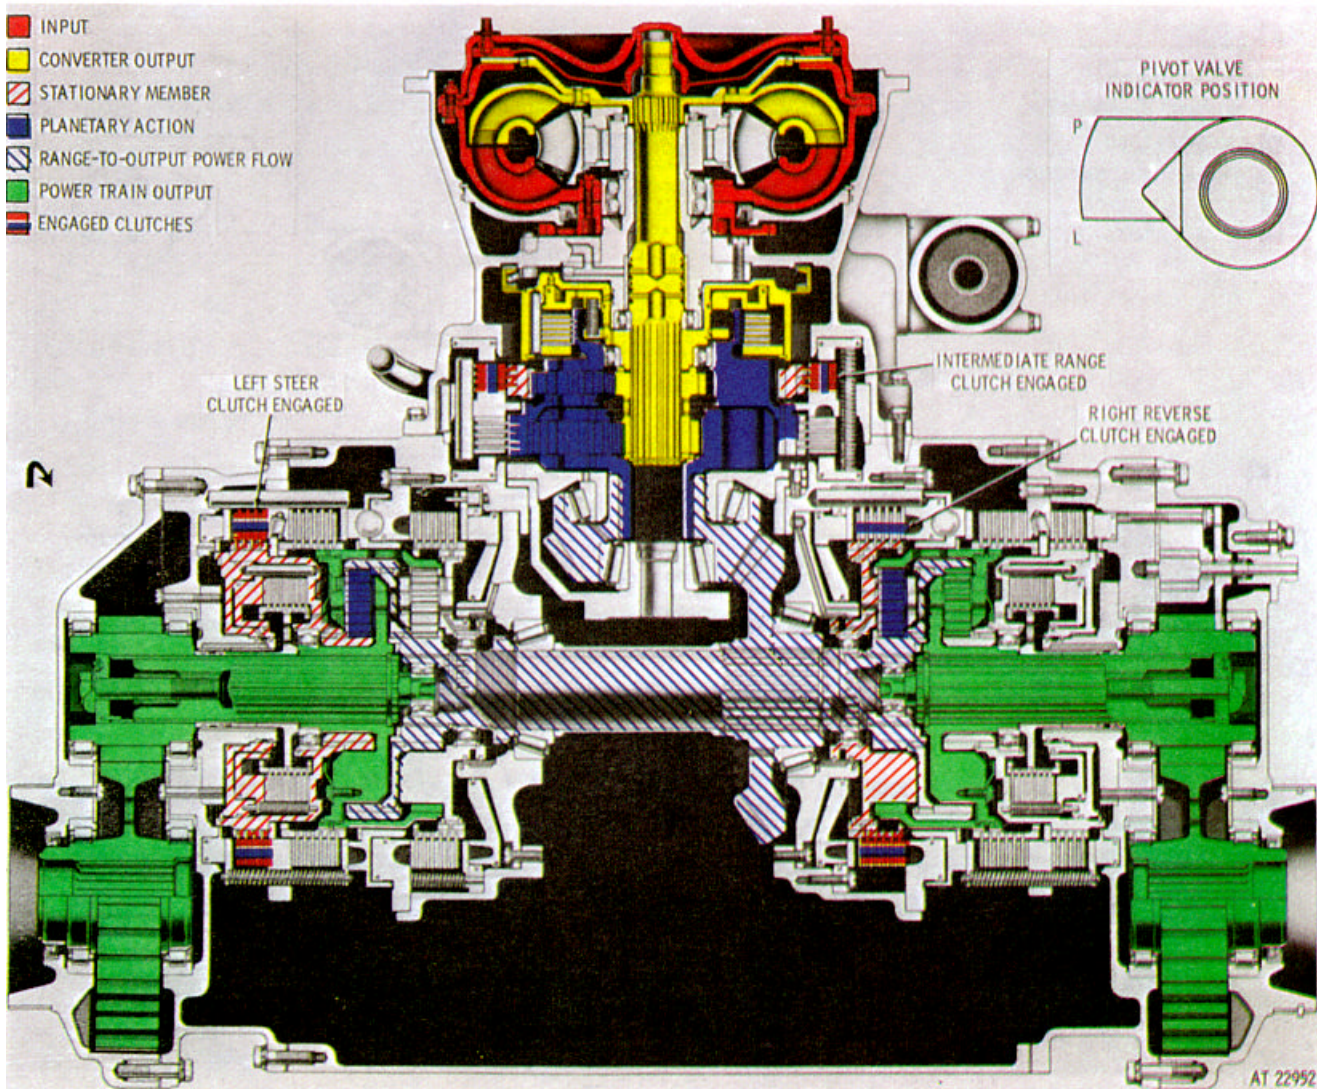

Figure 2-26. Reverse-2 gear, normal left steer operation-torque path.
(3) In reverse-1 gear, normal left steer operates in the same manner as right steer except that the actions described in (1) and (2), above, take place in opposite sides of the transmission. (The left steer clutch is engaged, and the right transmission output drives the vehicle in reverse as in reverse-gear straight travel.)
f. Reverse 2 Gear, Normal Left Steer (fig. 2-26).
(2) Reverse-2 gear, pivot left steer is identical with reverse-2, normal left steer as described in paragraphs 2-51f (1) and (2), and illustrated in figure 2-26.